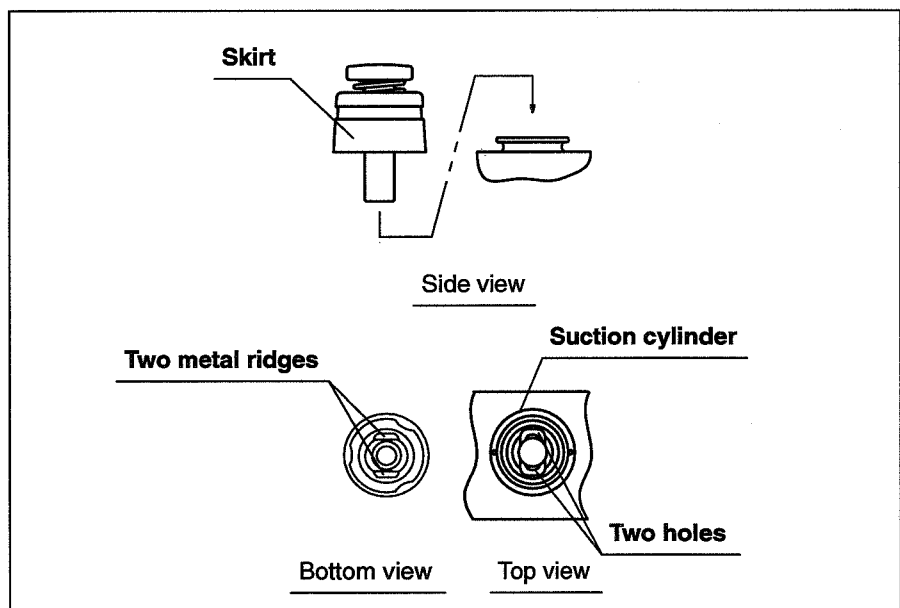

Figure 3.7
2. Attach the suction valve to the suction cylinder of the endoscope (see Figures 3.7 and 3.8). Confirm that the valve fits properly without any bulging of the skirt.